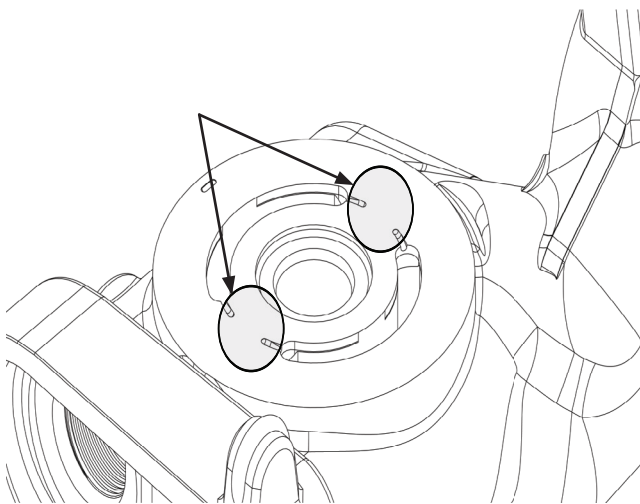

Figure 28, Pump Block Running Surface
Inspect the running surfaces on the pump block, motor block, and both running faces on the center section. Note: The pump face on the center section has machined grooves as seen in Figure 28. These are not defects.
5. Mark a point on the new nut and hub per Figure 28. (Point A)
6. Measure 2 nut flats or 120° per Figure 28 and mark hub. (Point B)